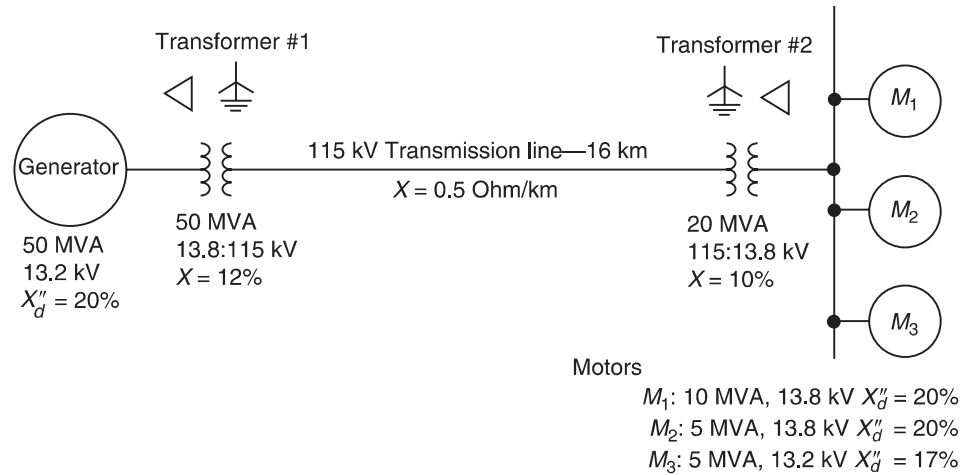

FIGURE P2.5
- 2.5** A three-phase generator feeds three large synchronous motors over a 16 km, 115 kV transmission line, through a transformer bank, as shown in Figure P2.5. Draw an equivalent single-line reactance diagram with all reactances indicated in per unit of a 100 MVA, 13.8, or 115 kV base.